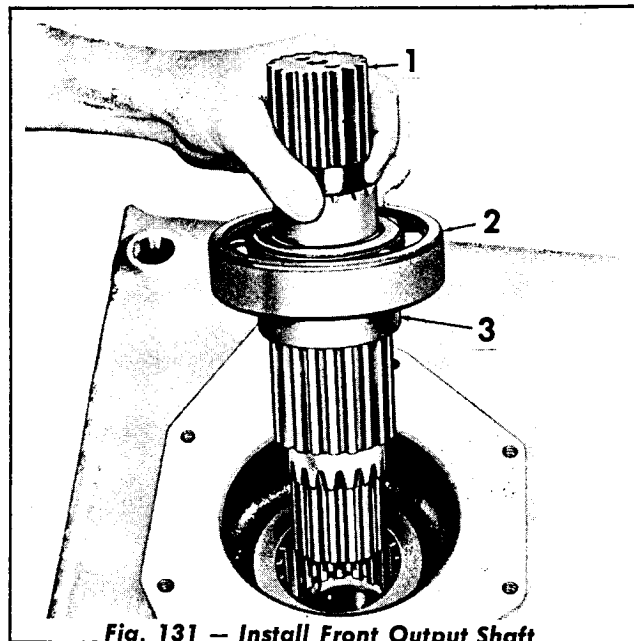

Fig. 131 — Install Front Output Shaft
2. Install the front output shaft (Fig. 131), the bearing, and the spacer into the front of the transfer gear housing. Align the shaft splines with the gear splines.